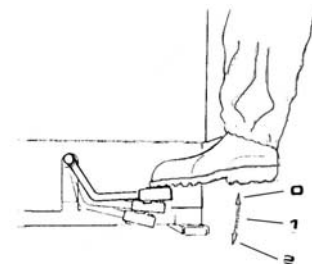

Fig 11
-Press the inflating pedal, which is stretched out from the bottom of the left cover of the box assembly, down to the middle position (1 position Fig 11).the inflating head should give air.
-Press the inflating pedal all the way down (2 position Fig 11).a strong air blast should come from the holes in the four locking sliders.